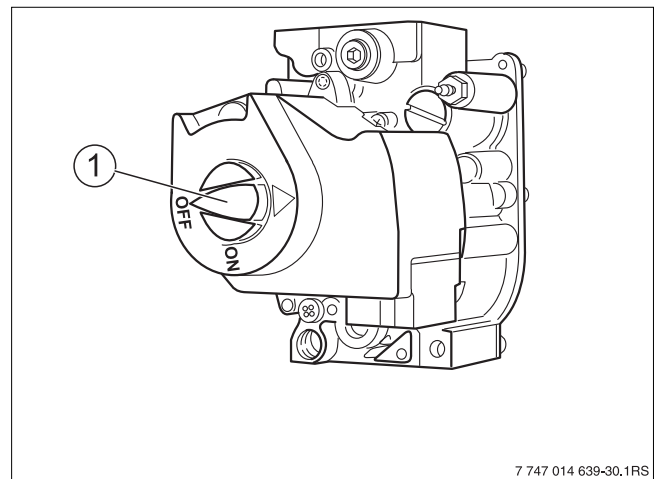

Fig. 26 Gas valve in OFF position
- ▶ Turn the gas valve ON/OFF knob (→ Fig. 26 [1]) clockwise to the **OFF** position. Do not use excessive force.
- ▶ Turn the gas valve ON/OFF knob clockwise to the **OFF** position (→ Fig. 26, page 21).